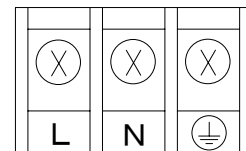

Fig. 4.2 Power source Terminal block
- 2) Connect the power source electric wire referring to Fig. 4.2. Connect the protective grounding to the  terminal. Connect the non-grounding side of the power source to "L" terminal. Connect the grounding side to the "N" terminal.